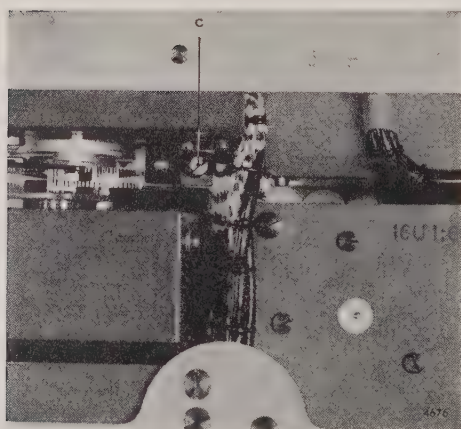

Fig. 32. *Right-hand side of the frame, with stop screw for limiting the travel (beginning)*
10. Check whether the stop screw *c* (Fig. 32) for limiting the travel of the measuring carriage at the beginning of the scale is so adjusted that when the knob on the measuring potentiometer has been turned fully clockwise, the capillary is approx. 0.5 mm before the initial line of the chart. If desired, readjust the stop.